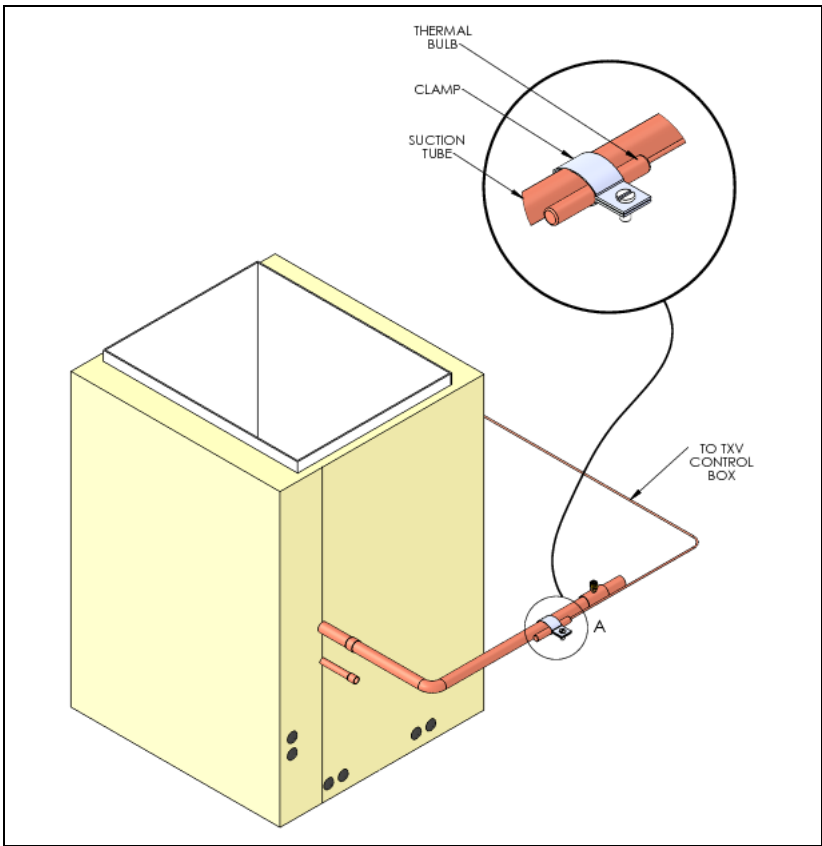

Figure 14. Clamping the Thermal Bulb
Step 4: Clamp the thermal bulb firmly against the **clean suction tube** extension and parallel to it, as shown in Figure 14.